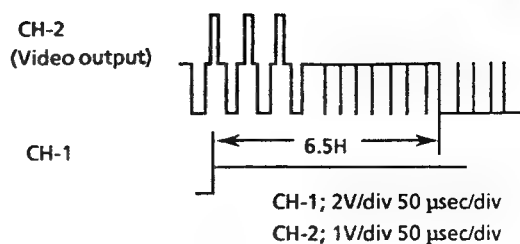

Figure 2-3.
3. Adjust R753 (phase generator MM control) so that the waveform on the oscilloscope screen be as shown in Figure 2-3.